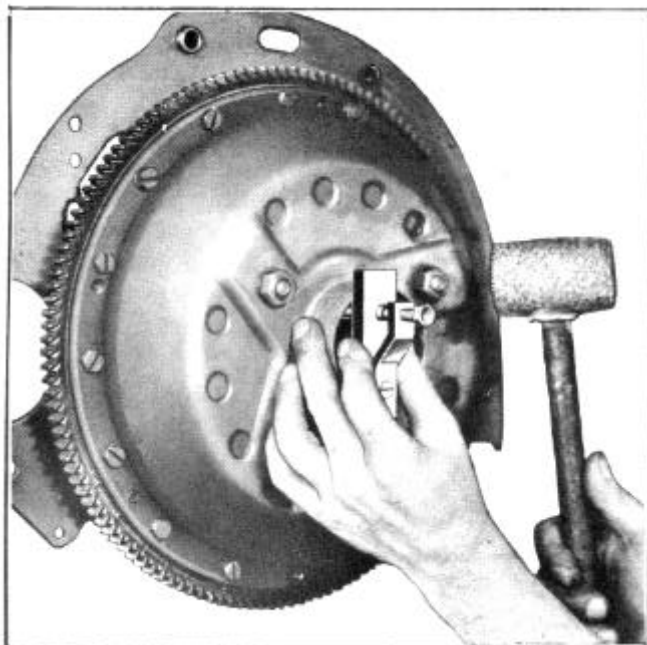

FIGURE 7
10. Using finger setting gauge 1-774, as shown in Figure 7, check relative height of each finger. Reading should be same for each finger within .010".